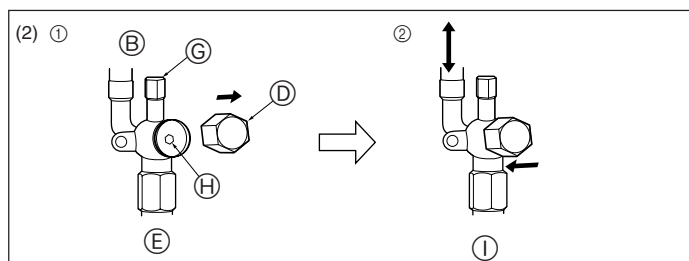

Fig. 4-6
(2) Liquid side of RP60-140 and Gas/Liquid side of RP35, 50 (Fig. 4-6)